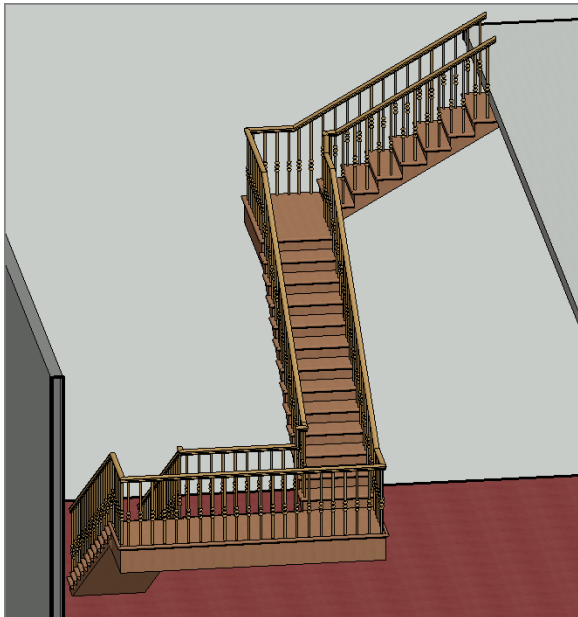

FIGURE 10.69: The stairs as shown in 3D. Notice the nice bullnose and the railings.
9. Go to a 3D view to check out the stairs. They should resemble Figure 10.69.